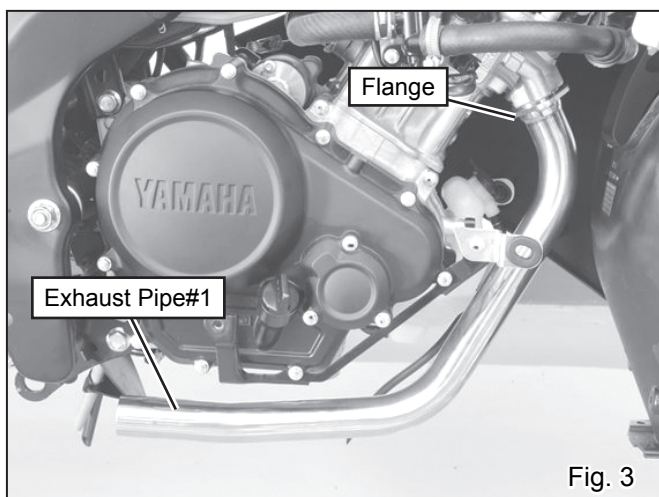

Fig. 3
- 4) Insert YAMAHA genuine new exhaust gasket in exhaust port. Then, insert Exhaust Pipe#1 into exhaust port and fix them with stock nuts (See Fig. 3 & 4). Tighten nuts by hand only at this stage.